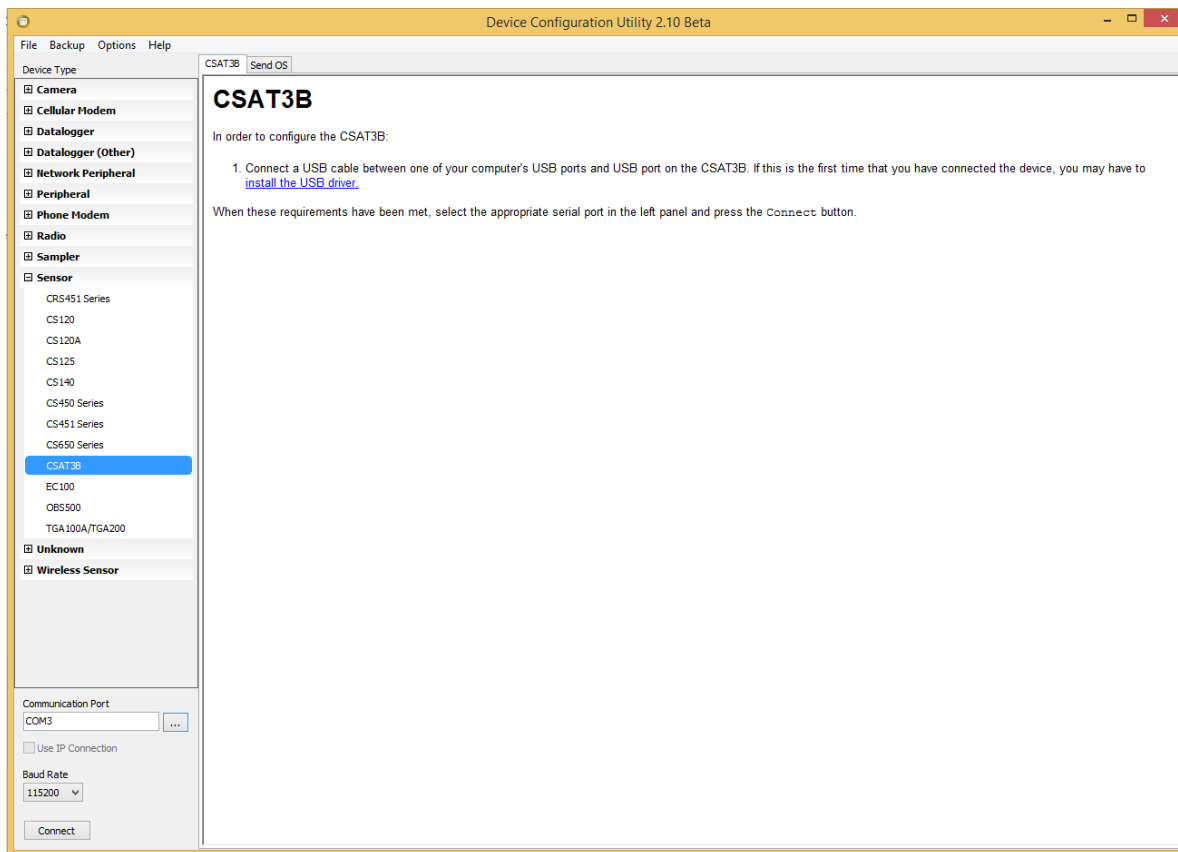

FIGURE 7-1. Connecting CSAT3B using Device Configuration Utility
4. From the left side of the main screen, select the CSAT3B among the list of sensors. Select the appropriate communication port and baud rate (refer to the left side of FIGURE 7-1).
5. If this is the first time this PC has connected to a CSAT3B and depending on the PC settings, the USB driver may need to be manually installed. To do this, make sure the PC is connected to the internet and click on the **install the USB driver** link as shown in FIGURE 7-1).